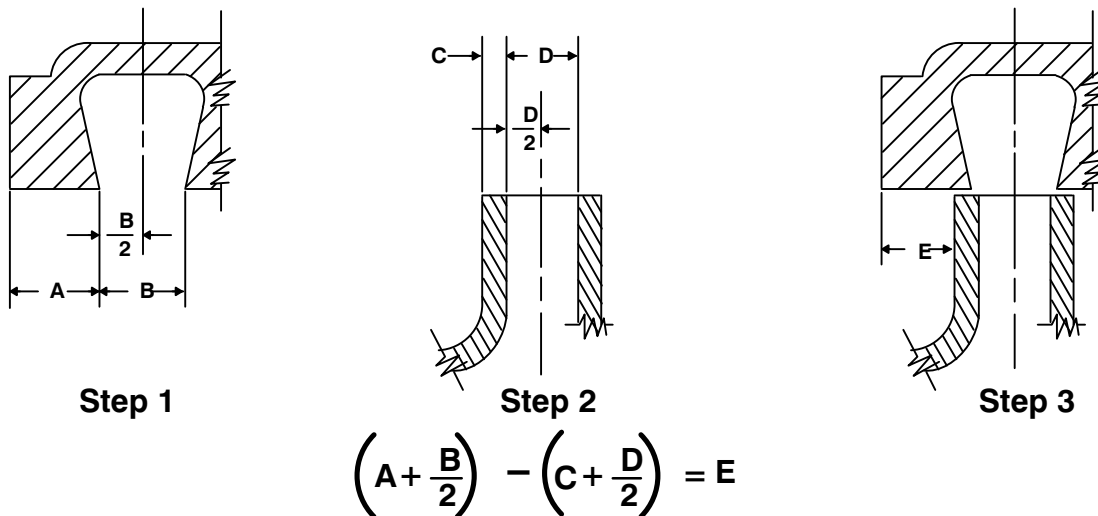

Figure 4. Centering Impeller Within Pump Casing
For maximum pump efficiency, the impeller must be centered within the volute scroll. To verify impeller positioning, measure the pump casing and impeller as shown in Figure 4. Use these measurements to calculate the required impeller location (dimension E). Add or remove impeller adjusting shims (44) to obtain dimension E.